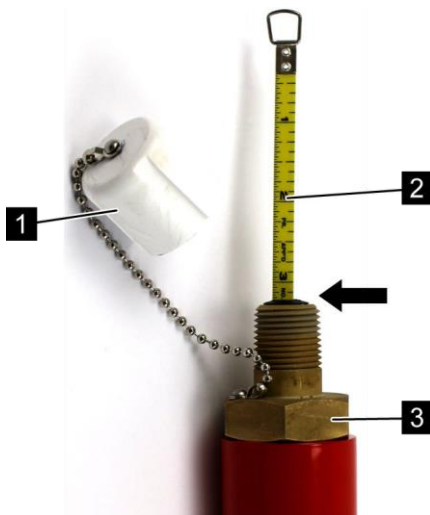

Fig. 185: Reading the liquid level
- Do not unscrew the brass hexagon (Fig. 185/3) of the liquid level indicator.
1. ➤ Unscrew the plastic protective cap (Fig. 185/1).
2. ➤ Pull tape measure (Fig. 185/2) out of the liquid level indicator to the stop.
4. ➤ Read the liquid level on the measuring tape above the threaded union (Fig. 185/arrow).
5. ➤ Detach the measuring tape (Fig. 185/2) from the float with rapid hand movement, and lower it completely into the liquid level indicator.
6. ➤ Screw on the plastic protective cap (Fig. 185/1).